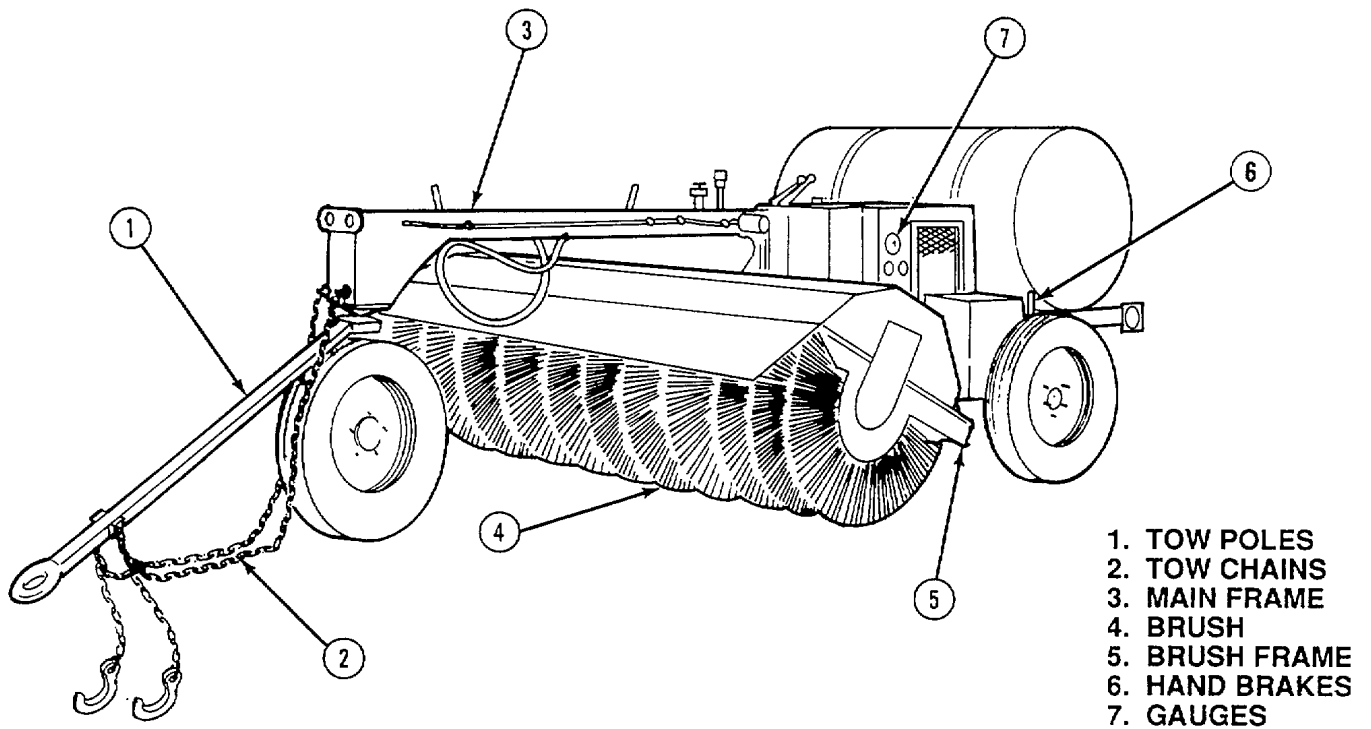

Figure 1-1. Rotary Towed Sweeper 53MH - Left Front View
b. *Model Number and Equipment Name.* Rotary Towed Sweeper, Model 53MH, NSN 3825-01-314-2926, produced by M-B Company, Inc. of Wisconsin. (See figures 1-1 and 1-2).